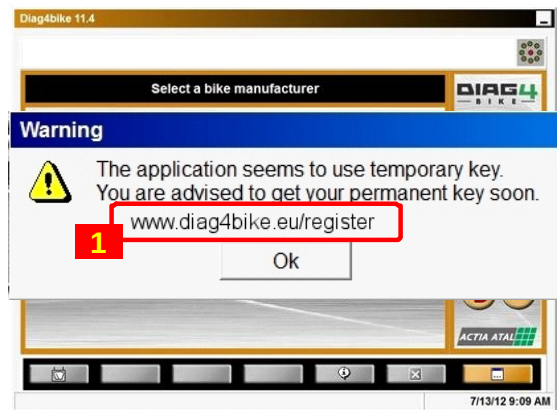
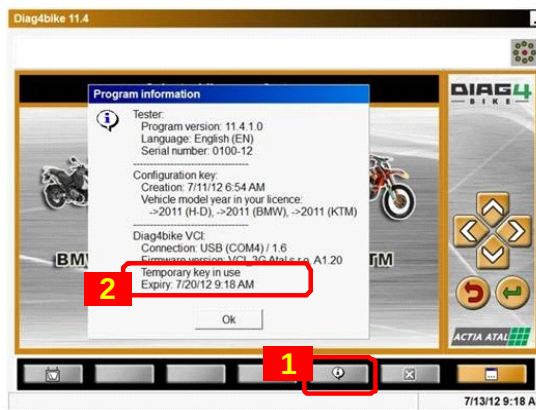

Fig. 6 – Notification of DIAG4BIKE® that a "Temporary key" is used in the application
Fig. 7 – Indication of validity of the „Temporary key“
The operator is notified about the presence of the „Temporary key“ by a notification (see Fig. 6) immediately after the start of DIAG4BIKE®. Further, it is recommended to the user to request **timely** the „Permanent key“. At the same time, the address (see pos. 1, Fig. 6) to register the program (see chapter 4.3) and to obtain the „Permanent key“ is indicated. Information about the validity of the „Temporary key“ (see pos. 2, Fig. 7) can be obtained by clicking on the „Info icon“ (see pos. 1, Fig. 7).
If the registration is not carried out **timely** and if the validity of the „Temporary key“ expires, the program operator is notified about this condition by a corresponding text (e.g. pos. 2, Fig. 7). Moreover, the program will be blocked for further use for motorbike diagnostics until registration is carried out.
If the entering of the „Permanent key“ is carried out correctly, the notification about the „Temporary key“ (see pos. 2, Fig. 7) disappears.